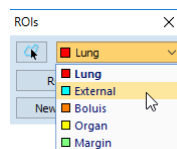

Figure 248 – Selecting the current ROI in TomoCon
- Select the ROI from the **ROIs** drop-down list in the **ROIs** tool in the tools panel (see Figure 248).